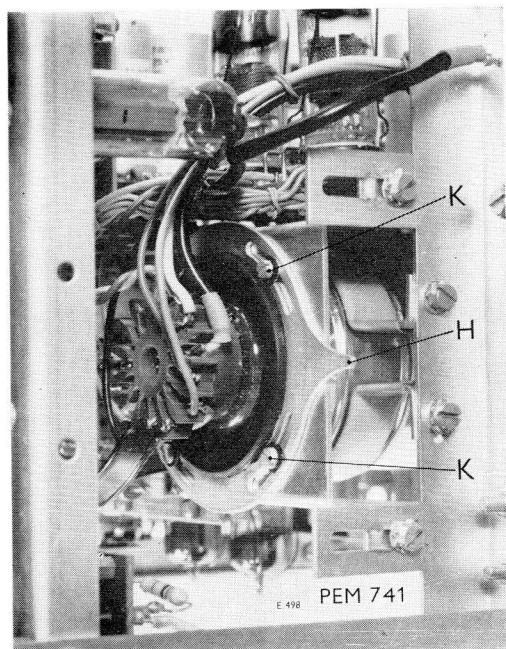

Fig. 8. Turning the cathode-ray tube
4. When the new cathode-ray tube has been fitted, make sure, that the time-base line runs completely horizontally. If not, turn the tube to the correct position with lever "H" (see Fig. 8) (first loosen the screws "K").